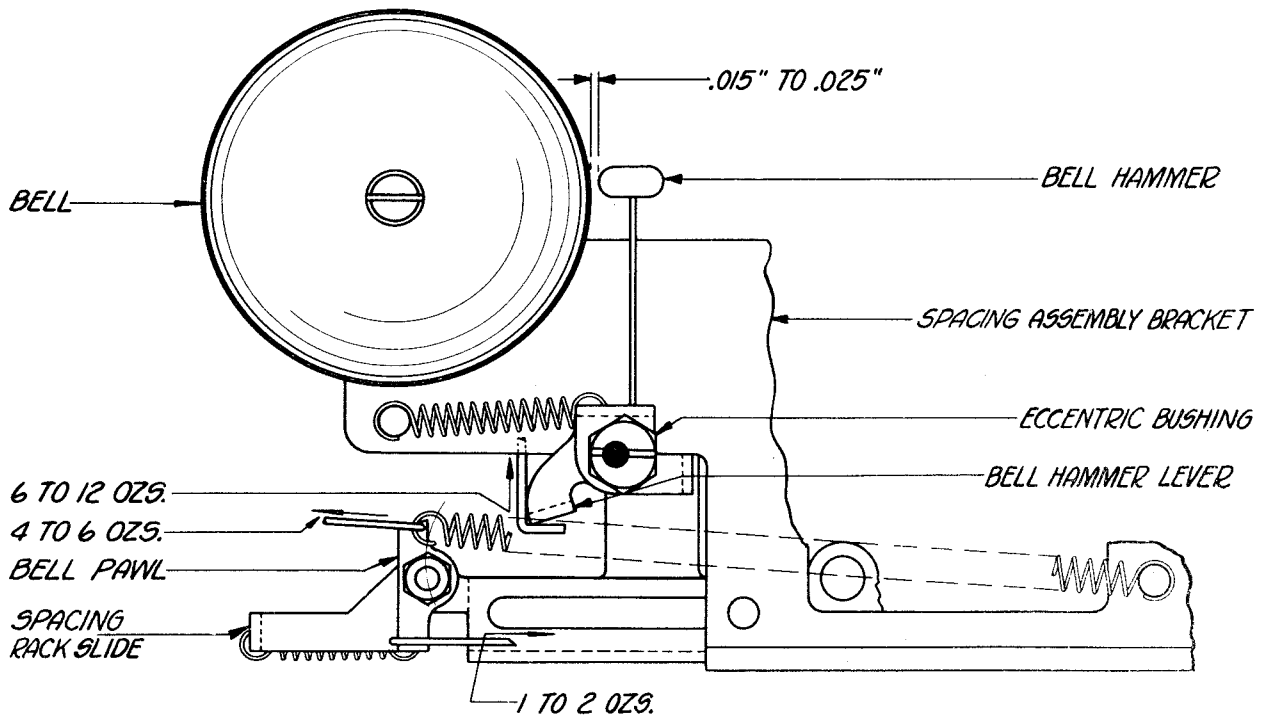

Figure 28
2.62 Bell Hammer: With the right end of the bell-hammer lever against the lower edge of the bracket, there should be a clearance of minimum 0.015 inch, maximum 0.025 inch, between the bell and the hammer. See Figure 28.
2.63 Bell-hammer-lever Spring: With the right end of the bell-hammer lever against the lower edge of the bracket, hook a scale under the left end of the lever and pull up vertically. It should require a pull of minimum 6 ounces, maximum 12 ounces, to start the lever moving. See Figure 28.
in Figure 28, to pull the spring to position length. Replace the spring.
2.65 Bell-pawl Spring: Hook a scale over the lower end of the bell pawl and pull horizontally to the right. It should require a pull, as indicated in Figure 28, to start the pawl moving.